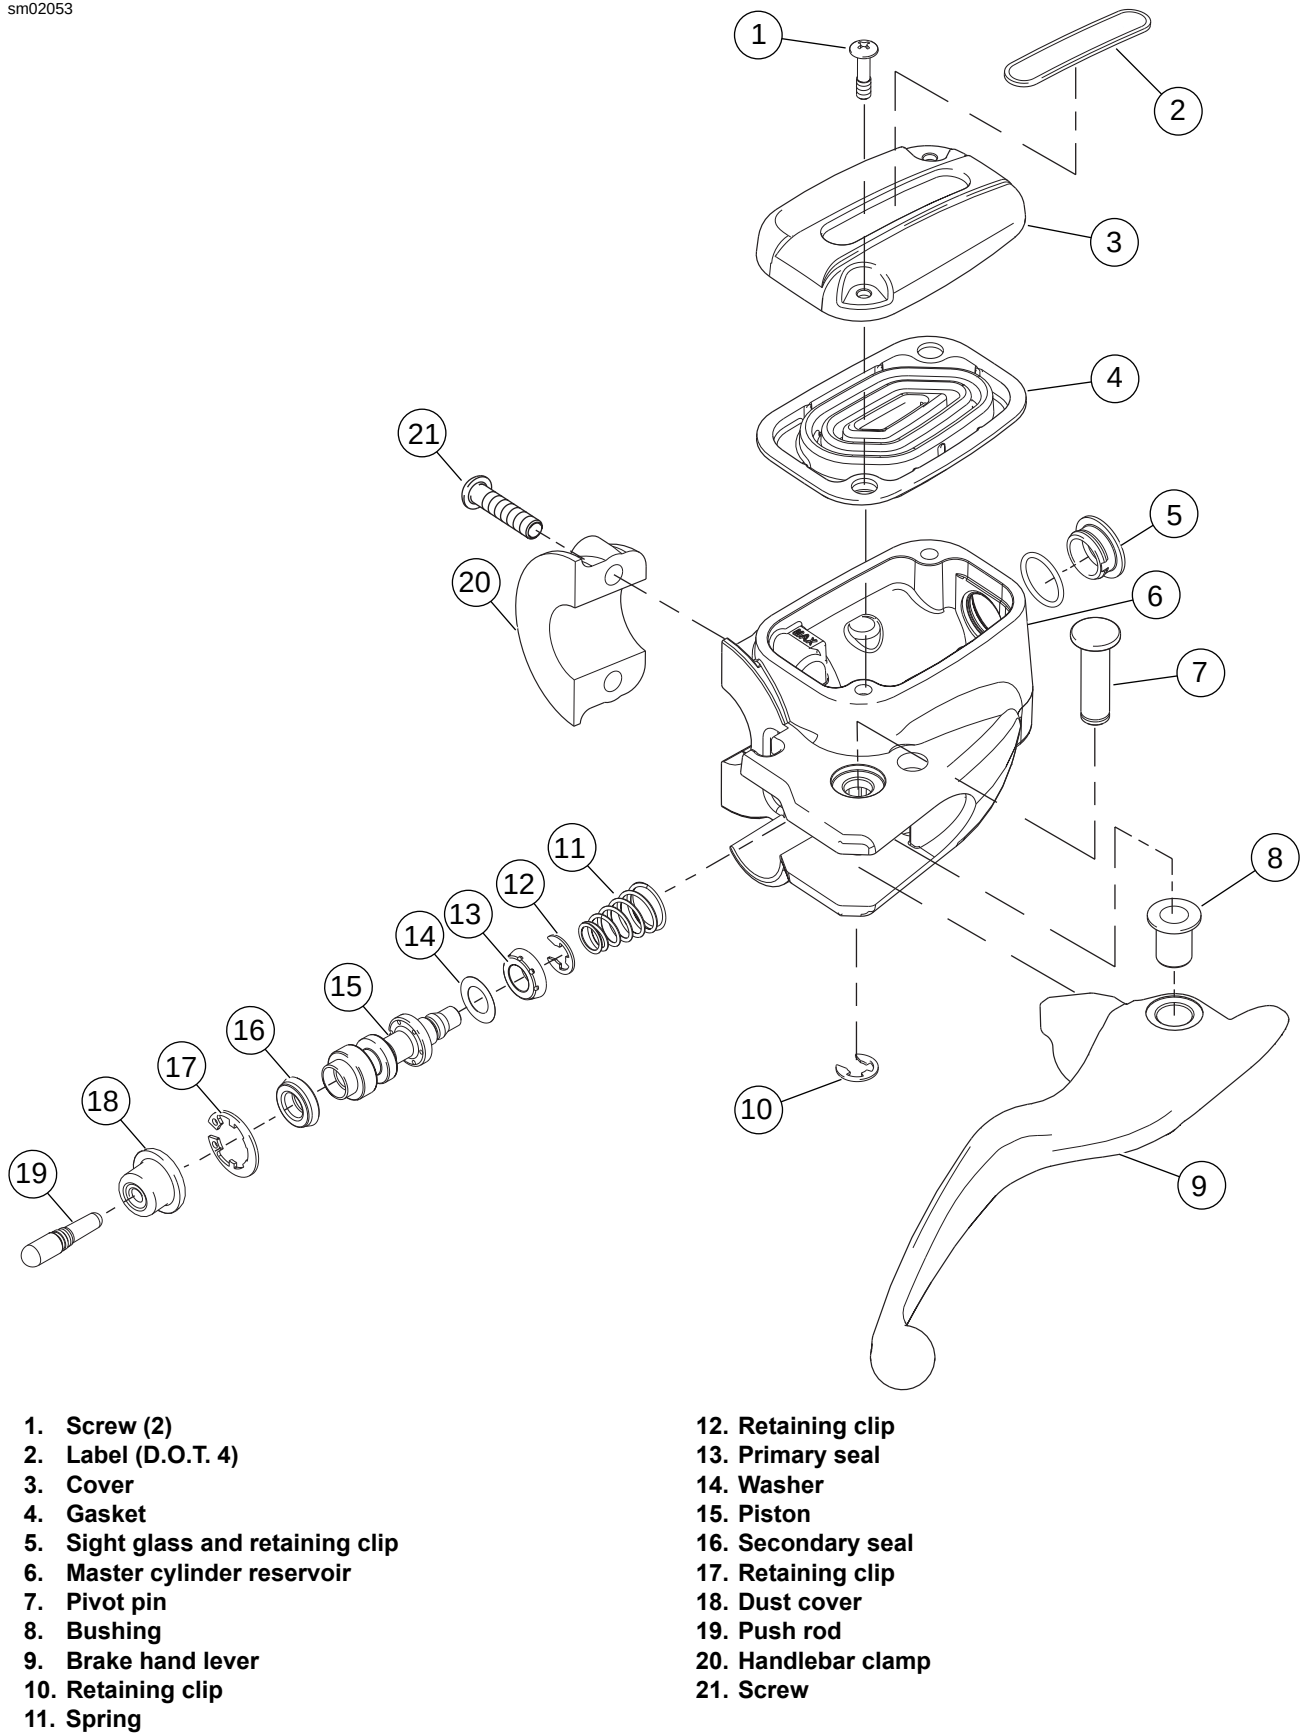

Figure 2-37. Front Brake Master Cylinder
4. See Figure 2-37. Remove screws (21) to detach handlebar clamp (20) from master cylinder reservoir (6).
- a. See Figure 2-37. From inboard side, push sight glass (5) out of casting.
- b. Pull rubber gasket (4) from cover (3).
2. See Figure 2-37. Press down on piston and spring assembly into the cylinder bore and install retaining clip (17). Retaining clip must be completely seated in groove on outlet side of piston bore. Install dust cover (18) and push rod (19).
3. Install cover (3) with gasket (4) on master cylinder reservoir. Snug screws (1) to fasten the cover to reservoir. Do not tighten screws at this time.
4. Align hole in brake hand lever with hole in master cylinder reservoir (6). From top of assembly, slide pivot pin (7) through reservoir and hand lever.
5. Install retaining clip (10) in pivot pin groove. Verify that retaining clip is completely seated in groove and verify proper function of master cylinder assembly.